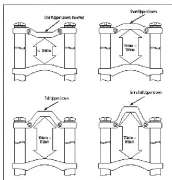

Fig. 2
- Before you install a Judy XL/XLC on the bicycle, verify that the fork has been supplied with the correct upper crown. Refer to Fig. 2 for upper crowns available for Judy XL/XLC and to maximize fork stiffness by proper selection and orientation of the upper crown.